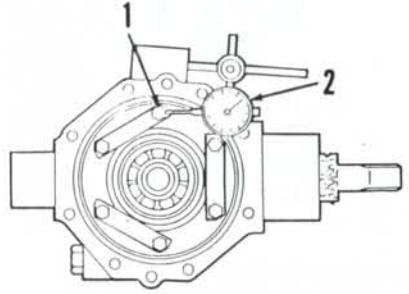

Fig. 11—Use a dial indicator (2) to measure ring gear (1) backlash. Refer to text for adjustment.
7. RING GEAR TO PINION BACKLASH. The backlash between ring gear and pinion should be 0.10-0.15 mm (0.004-0.006 inch). With left axle housing removed, backlash can be checked using a dial indicator as shown in Fig. 11. To adjust backlash, move shims (32) from right axle housing to left axle housing.